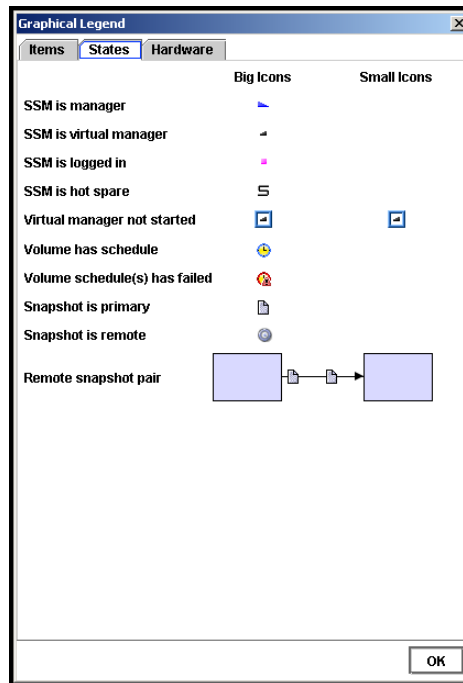

Figure 4. Graphical Legend States Tab from the Help Menu
- The States tab, shown in Figure 4, displays the icons used to depict states that the items are in. For example, when you are logged into an SSM, a pink square displays underneath the SSM. When an item such as an SSM or a cluster is selected, it displays a yellow outline.